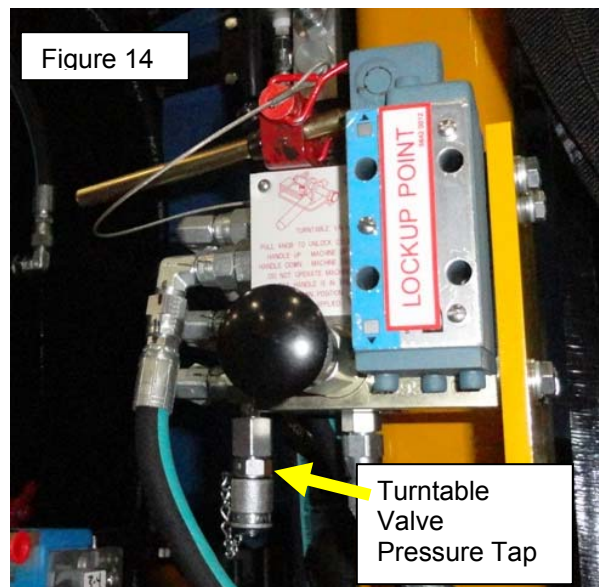

Figure 14
3. The turntable valve is located on the right side of the machine (Figure 14).
5. Attach one end of the hose (found in the toolbox) to the quick disconnect at the pressure tap of the 24 volt emergency hydraulic pump (Figure 4 or 5) and attach the other end of the hose to the turntable valve pressure tap (Figure 14).